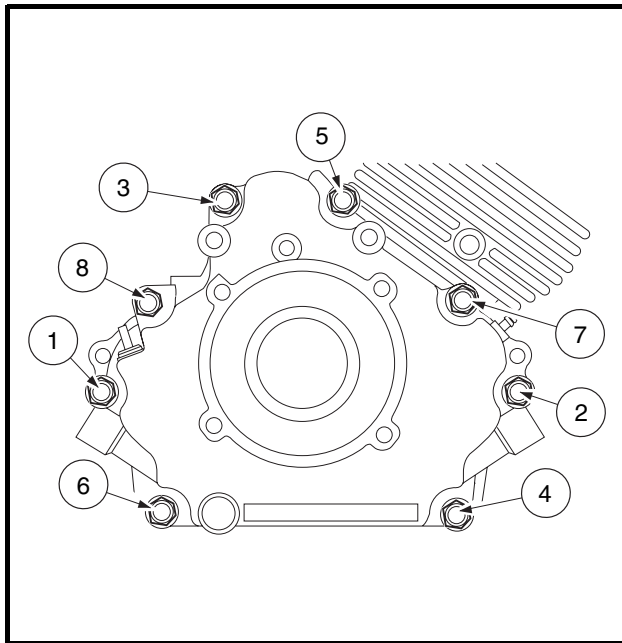

Figure 15-6 Crankcase Cover Installation
3. Install and finger tighten evenly the eight cover mounting bolts (**Figure 15-6, Page 15-6**).
4. Tighten the cover mounting bolts in two steps. First, in the sequence shown, tighten all eight bolts to approximately 130 in-lb (14 N·m). Then, repeating the sequence, tighten them to 250 in-lb (28.2 N·m) (**Figure 15-6, Page 15-6**).